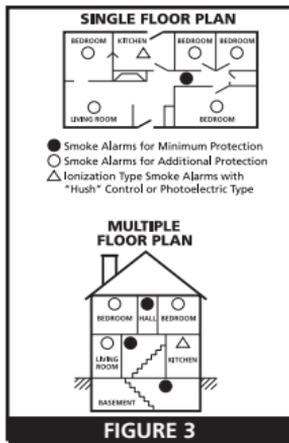

FIGURE 3
- Install Smoke Alarms on sloped, peaked or cathedral ceilings at or within 3ft (0.9m) of the highest point (measured horizontally). NFPA 72 states: "Smoke alarms in rooms with ceiling slopes greater than 1 foot in 8 feet (.3m in 2.4 m) horizontally shall be located on the high side of the room." NFPA 72 states: "A row of detectors shall be spaced and located within 3 ft (0.9m) of the peak of the ceiling measured horizontally" (see FIGURE 3).